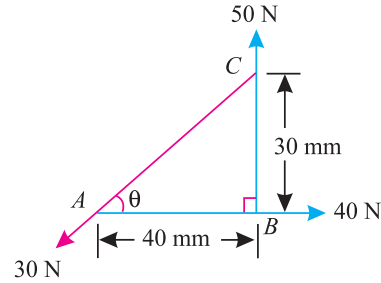

Fig. 2.3.
**Solution.** The system of given forces is shown in Fig. 2.3.